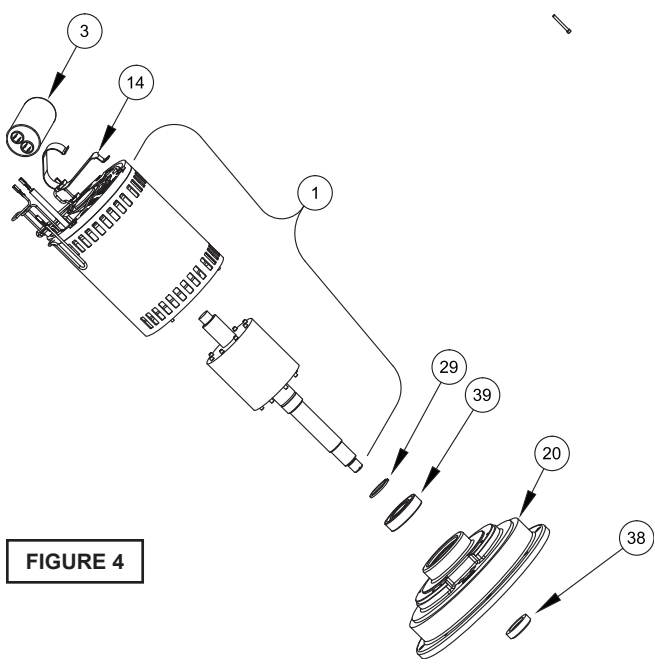

FIGURE 4
To examine or replace the motor (1), capacitor (3, 1 phase units), and bearing (39), drain oil from motor as outlined in paragraph F-1.2. Disassemble volute and impeller as outlined in paragraph F-2.1 and disassemble shaft seal as outlined in paragraph F-4.1. Position unit upright, using blocks to avoid resting unit on shaft. Unscrew cable hex bolts (6) and remove compression flange (9a) and power cord (9). Remove snap ring (51) with a flat head screwdriver. Pull the terminal block (26) out of the motor housing (2) using a T-bolt or pair of pliers and a .25-20 screw in the threads of the terminal block (26). Be sure to leave slack on the motor leads connected underneath. Use needle nose pliers to pull each female connector off of the pins on the underside of the terminal block (26) (see Figure 5). The unit voltage should be noted. Repeat cord and terminal removal procedure for any sensor cords (10). Remove socket head cap screws (42). Vertically lift motor housing from bearing bracket by lifting handle (7). Inspect square rings (36) for damage or cuts. Remove the motor bolts and lift motor stator from bearing bracket (20). Disconnect capacitor leads from capacitor (3, 1 phase units). Examine bearing (39) and replace if required. If replacement is required, remove bearing (39) from motor shaft using a wheel puller or arbor press. (see Figure 4)